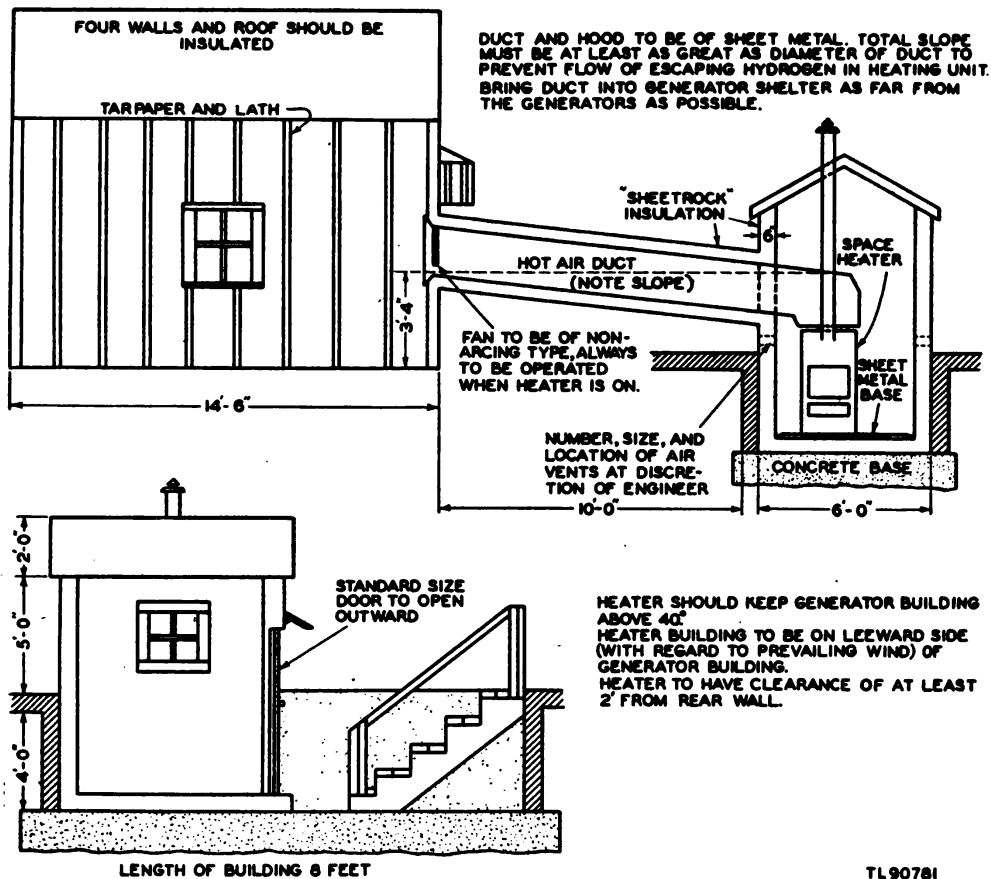

Figure 9. Heated generator shelter.
(2) A storage room for the chemicals is desirable. Store the caustic soda and ferrosilicon, or caustic soda and aluminum, apart from each other so that the chemicals cannot mix if the containers break. Keep the chemicals dry. Punch a small hole in all small metal ferrosilicon containers to release any gas that may form from the decomposition of impurities in the ferrosilicon.
b. HEATED SHELTER FOR USE IN ARCTIC REGIONS (FIG. 9). In arctic regions, use Generator ML-185-(*) in a heated shelter if possible. Use an indirect heating system, preferably a hot-air system, since steam or hot-water systems freeze in cold weather. Locate the heating unit in a separate building, or in a portion of the generator building, *completely separated by a fireproof partition*. All possibilities of fire, sparks, or explosion *must* be eliminated. The entrance to the heater room should be from the outside. Provide adequate ventilation for the immediate removal of hydrogen gas in case of leakage.